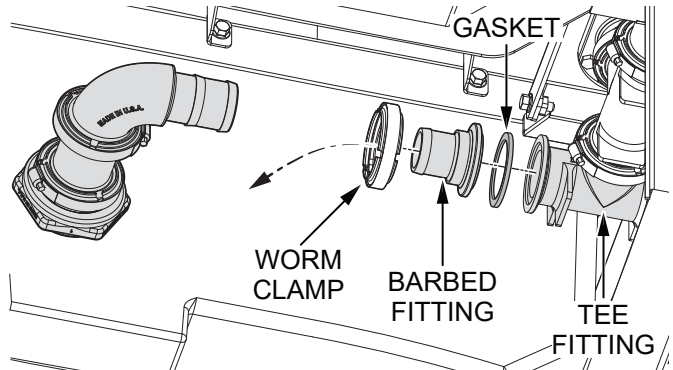

Figure 5. Remove Worm Clamp, Barbed Fitting, And Gasket
3. Remove the **worm clamp** (Figure 5) securing the **barbed fitting** to the **tee fitting**, then discard the worm clamp, barbed fitting and **gasket**.